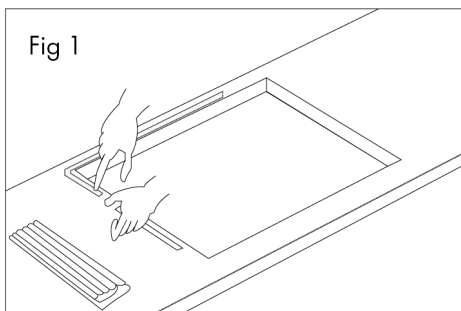

Fig 1
To prevent liquids from accidentally leaking into the underlying storage space, the appliance is equipped with a special gasket. To apply this gasket, carefully follow the instructions in Fig. 1.
1. Lay out the protective sealing strips along the edges of the opening in the bench top and carefully overlap the strip end. (See Fig. 1).